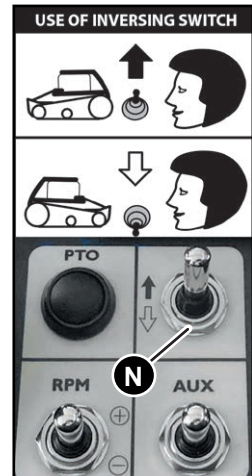

Fig. 13
5.4 DRIVE (Fig. 13)
This lever reverse the motion. Move the Joystick (G Fig.10) FORWARD gradually and continuously. The machine will move ahead. The machine can be easily controlled by a finger that controls both speed and direction. It is possible to reverse the Joystick function when the machine moves forward and towards you (Fig. 13).